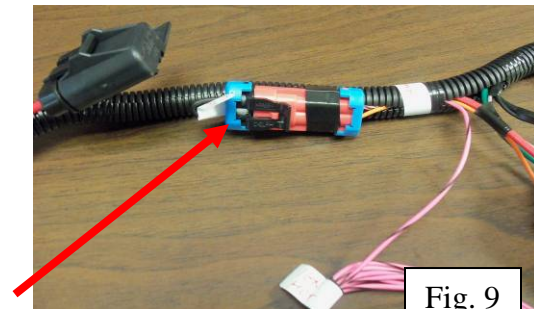
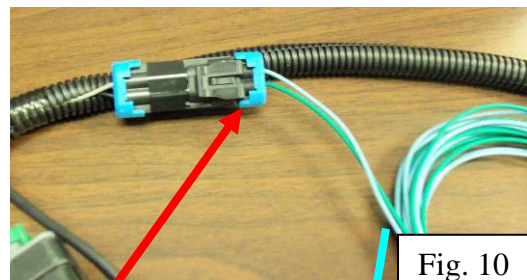
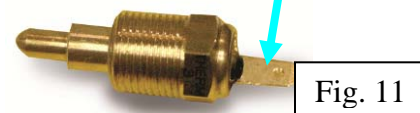

Fig. 9
Fig. 10
Fig. 11
9. If the car will be positively wired, a toggle switch will be needed. If the car will be negatively wired, an electric fan temperature switch will be needed (AFCO part # 85286) (Fig. 11).
11. If the car will be wired for a ground switch, the jumper will be installed into the red connector (Fig. 9) and the blue and green leads will connect to the black connector (Fig. 10). Then, the green wire can be discarded and the blue wire will attach to the electric fan temperature switch (Fig. 11). At this time the fan harness will be functional.